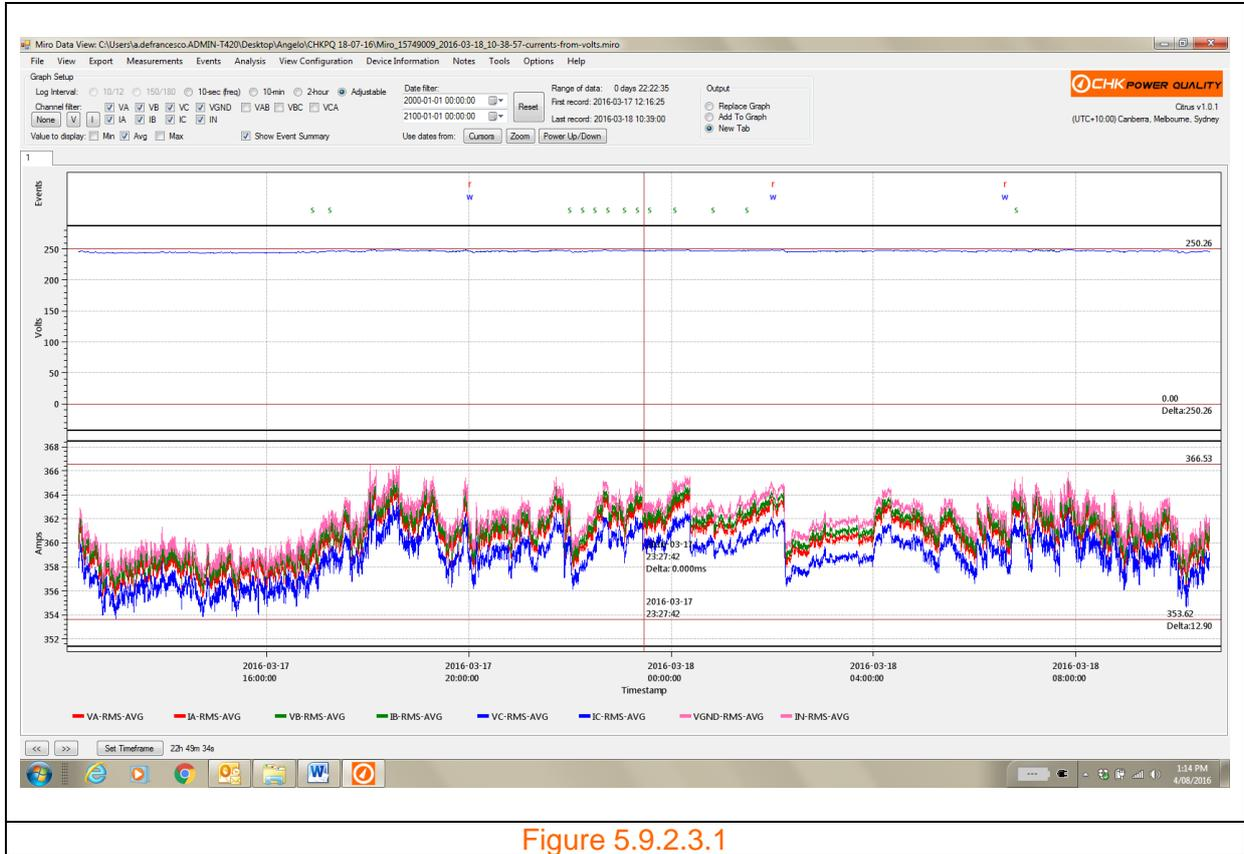

Figure 5.9.2.3.1
Step 1: Click the 'View' menu shown in figure 5.9.2.3.1. A drop down box appears as shown in figure 5.9.2.3.2.